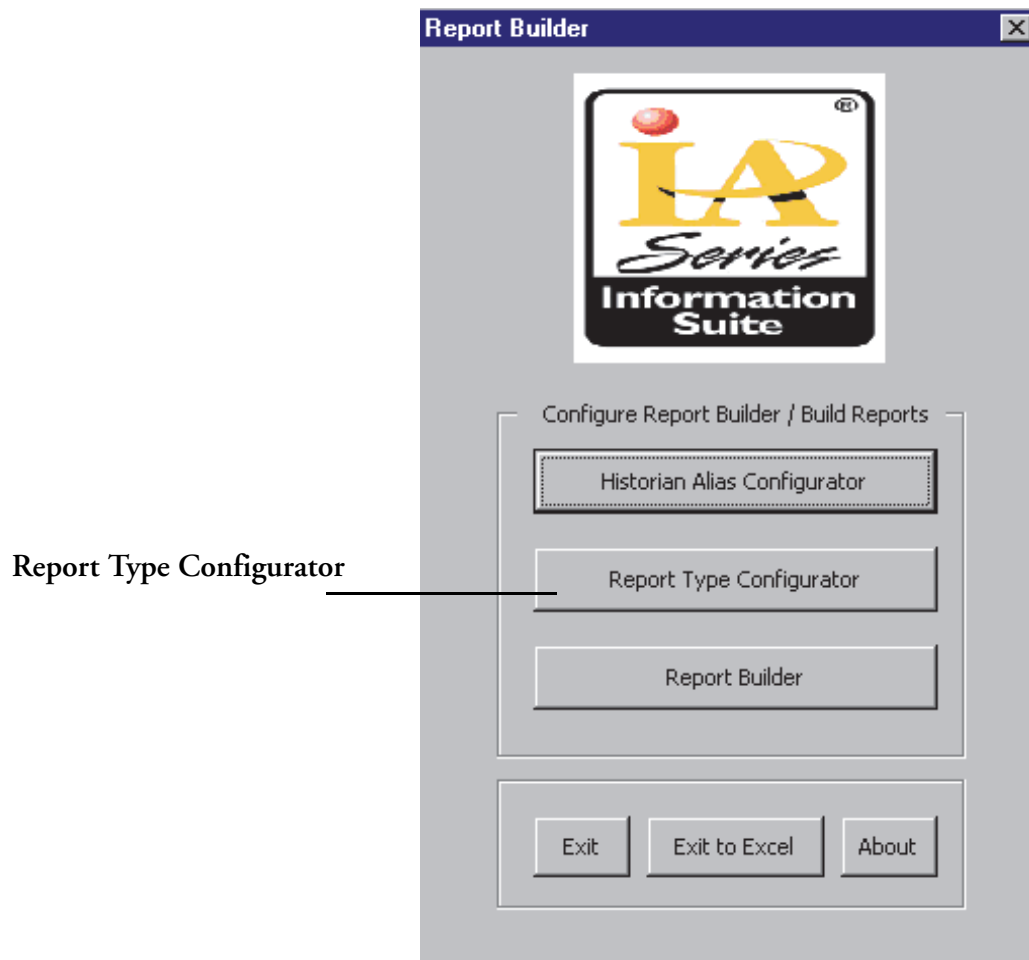

Figure 3-1. Report Builder Main Menu
1. Click **Report Builder** on the Report Builder Main Menu (Figure 3-1).